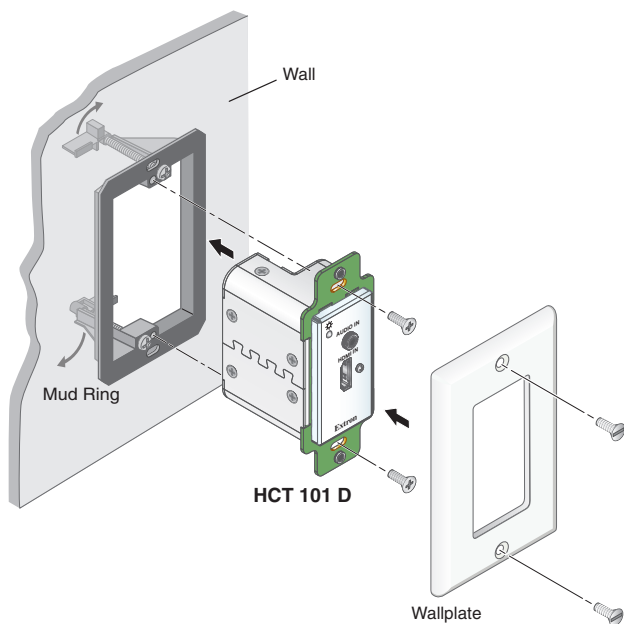

Figure 8. Mounting the Transmitter to a Mud Ring
2. Insert the cabled transmitter into the mud ring or junction box within the wall or furniture, aligning the mounting holes in the transmitter with those in box or mud ring (see figures 8 and 9 at right).